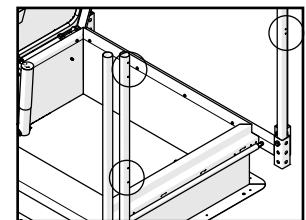

FIG. 3
4. Install vertical posts into the corner telestrut brackets. Gate mounting posts have pre-drilled holes for gate installation. (Fig. 3)